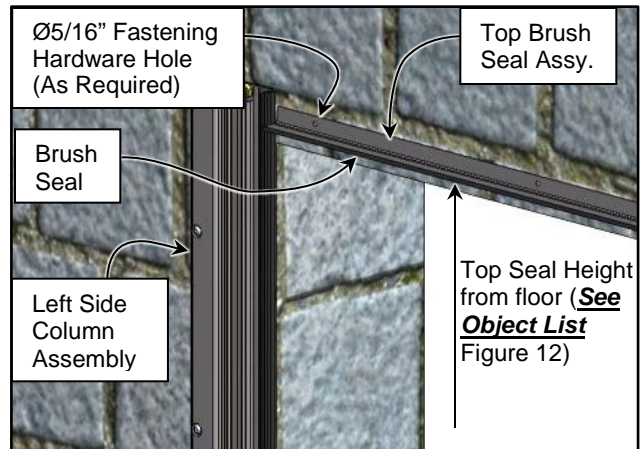

Figure 28
2. Evenly space the seal assembly in between the side columns. Leave any space on the ends between the side columns & the seal so it is centered. There should be a gap between the door's lintel and the bottom of the brush. The "Top Seal Height from floor" will be listed in the door's Object List. (See Figure 12 and Figure 28)
3. Drill anchor holes in the brush seal flange and wall @ approximately 12"-18" c/c apart as shown. (See Figure 28)
4. With the top seal assembly oriented as shown, securely attach it to the wall with appropriate fasteners. The rear top seal must be secured to the wall at all anchor points. (See Figure 28)